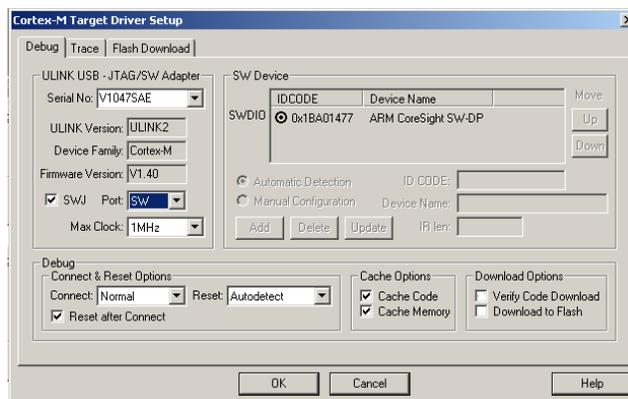

Figure 5: Selecting SWD Mode
You must use Single Wire Debug (SWD) mode to use Serial Wire Viewer. This is configured in  $\mu$ Vision as shown in Figure 5. You must first have a ULINK connected to a Cortex-M3 target.
- 4) Click Settings beside the USE: ULINK Cortex Debugger box to open Figure 5.
The box labeled SW Device (or labeled JTAG Device Chain if JTAG is selected) in Figure 5 will display the CoreSight devices detected in the processor or an error if none are found.
- 5) Select SWJ and SW in the Port: box. Confirm SW-DP is shown as in Figure 5. You must see SW-DP before you continue to Step 6.
Figure 5 shows that the ULINK is now successfully been connected to the CoreSight SWD port.